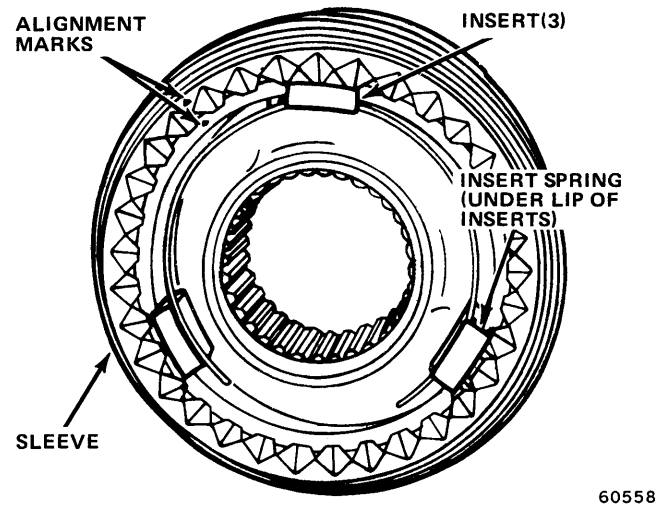
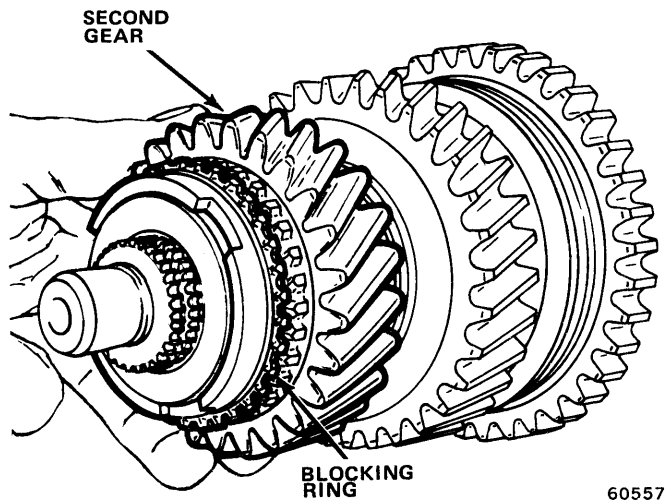

Fig. 6-13 Second-Third Synchronizer Assembly
Fig. 6-12 Installing Second Gear on Main Shaft
(15) Coat bore and blocking ring surface of second gear with transmission lubricant and place second gear blocking ring on tapered surface of gear.
(16) Install second gear on output shaft with tapered surface of gear facing front of main shaft (fig. 6-12).
(17) Install one insert spring into second-third hub. Be sure spring covers all three insert slots in hub. Align second-third sleeve to hub using marks made during disassembly, and start sleeve onto hub.
(18) Place three inserts into hub slots and on top of insert spring, then push sleeve fully onto hub to engage inserts in sleeve (fig. 6-13). Install remaining insert
NOTE: *The inserts have a small lip on each end. When correctly installed, this lip will fit over the insert spring (fig. 6-13).*